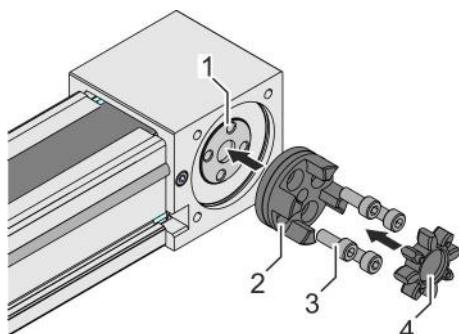

Fig. 17: Assembling the screw-in hub
1. ➤ Place the coupling's screw-in hub (Fig. 17/2) on the timing belt shaft (Fig. 17/1).
2. ➤ Tighten 4 screws (Fig. 17/3) alternating diagonally.
- 3.** Insert the gear ring (Fig. 17/4) into the screw-in hub (Fig. 17/2).